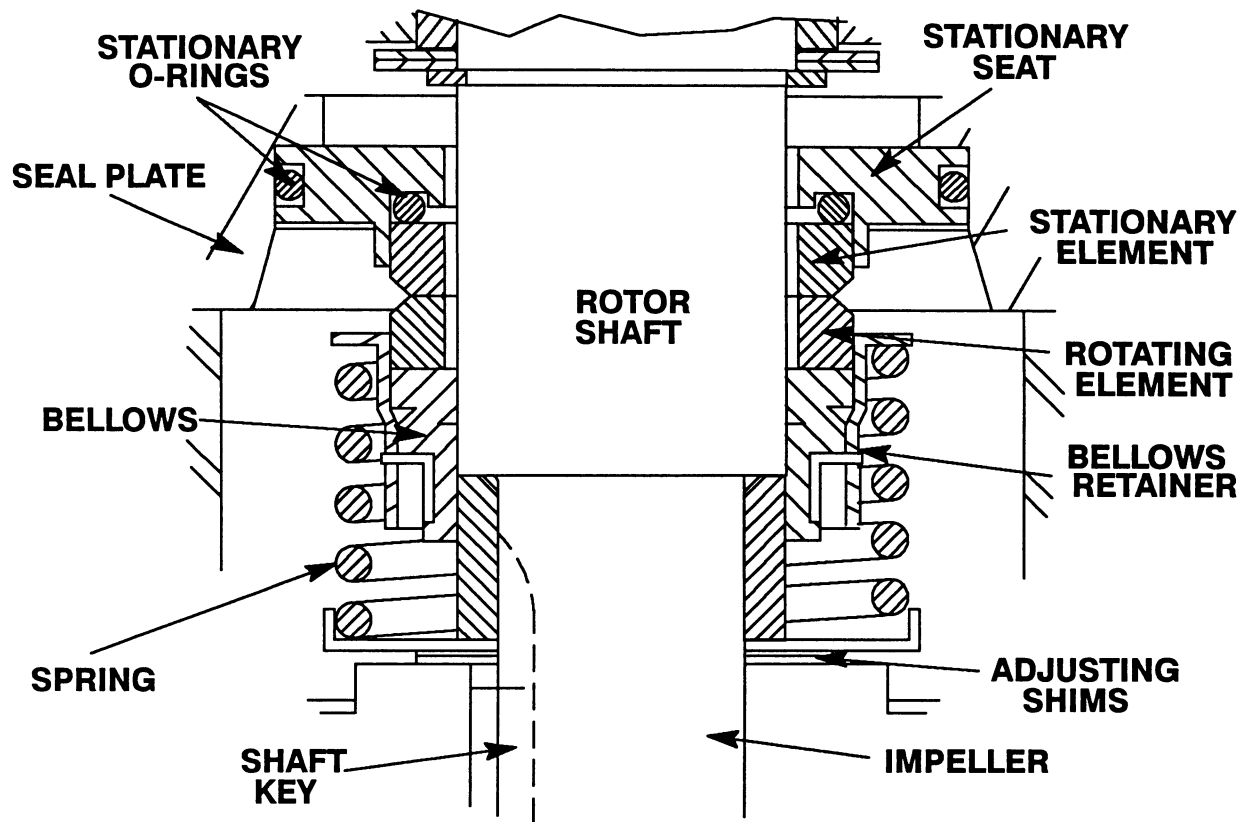

Figure 8. Lower Seal Assemblies 25277-345 And 46512-071
To ease installation of the seal, lubricate the bellows and O-rings with water or a very **small** amount of light lubricating oil, and apply a drop of light lubricating oil on the finished faces. Assemble the seal as follows, (see Figure 8).
Slide the seal spring over the shaft and bellows retainer, and install the spring retainer (26). See Figure 8 for proper order of seal assembly.